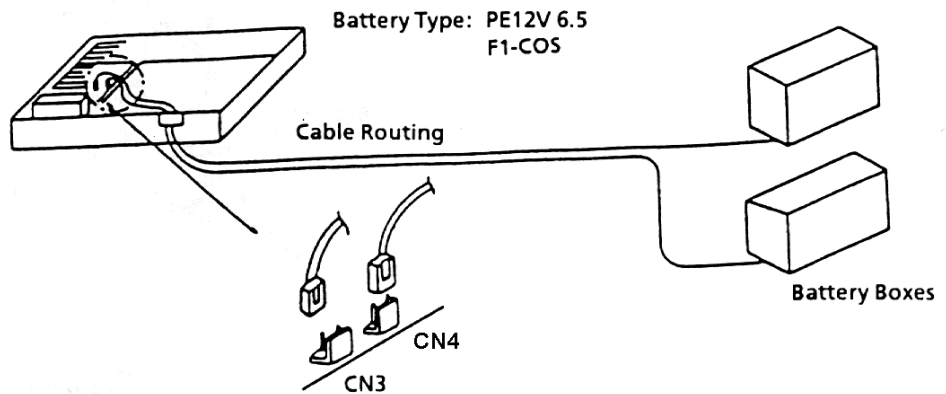

Figure 2-9: Connecting External Batteries
4. Connect the two external cable assemblies to CN3 and CN4 on the power supply. (Refer to *Figure 2-9: Connecting External Batteries, Pg 51.*)